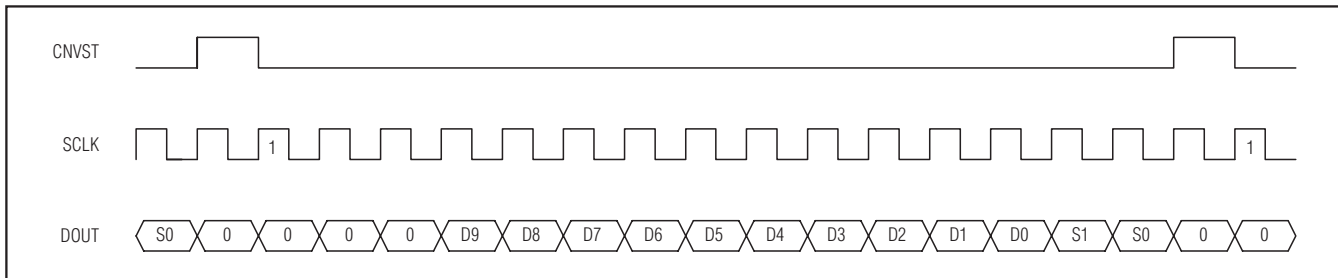

Figure 17. DSP Interface—Continuous Conversion
The MAX1077/MAX1079 can also be connected to the TMS320C54_ by using the data transmit (DX) pin to drive CNVST and the CLKX generated internally to drive SCLK. A pullup resistor is required on the CNVST signal to keep it high when DX goes high impedance and 0001hex should be written to the DXR continuously for continuous conversions. The power-down modes can be entered by writing 00FFhex to the DXR (see Figures 17 and 18).
can be selected to eliminate the need for writing to the transmit-data register more than once. For single conversions, idle CNVST high and pulse it low for the entire conversion. The ADSP21_ _ STCTL and SRCTL registers should be configured for late framing (LAFR = 1) and for an active-low frame (LTFS = 1, LRFS = 1) signal. This is also the best way to enter the power-down modes by setting the word length to 8 bits (SLEN = 1001). Connect the VL pin to the ADSP21_ _ supply voltage when the MAX1077/MAX1079 are operating with a supply voltage higher than the DSP supply voltage (see Figures 17 and 18).